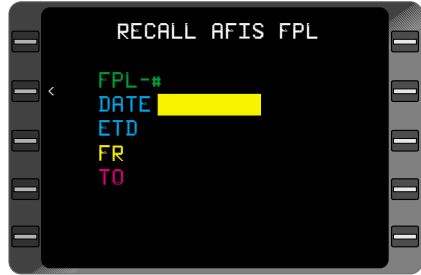

Figure 7-66
1. **ENTER** Key - DEPRESS. Cursor will position itself over date field. (Figure 7-66)